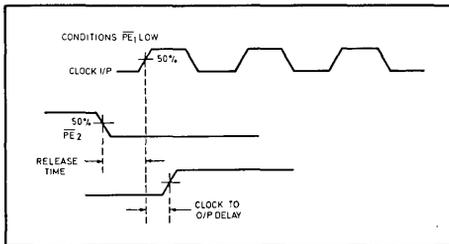

Fig. 4 Release timing diagram
- Release time is defined as the minimum time that can elapse between a H→L transition of a control input and the next L→H clock pulse transition to ensure that the  $\bar{1}1$  mode is forced by that clock pulse (see Fig. 4).